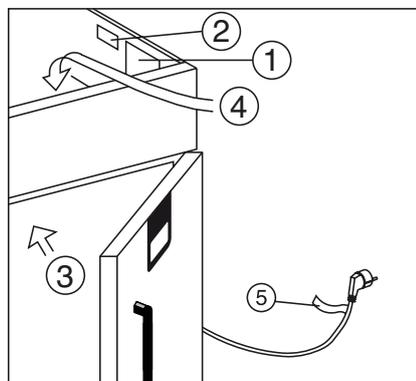

Fig.2
8.1 safety devices adopted (Fig. 2) :
- Do not remove the labels applied at the inner edge of the engine compartment, showing the technical specifications (1) and the instructions for grounding (2)
- Do not remove the label applied on the evaporator guard and near the electrical wiring inside the engine compartment, which warns the user to turn off the power supply before working on the unit (3)
- Do not remove the labels applied inside the engine compartment, indicating grounding (4)
- Do not remove the label applied on the power cord, indicating the type of power supply (5)